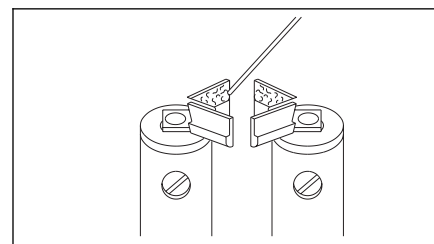

Figure 2 Tin Tips
6. Tin inside edges of tips with solder. (See Figure 2.)